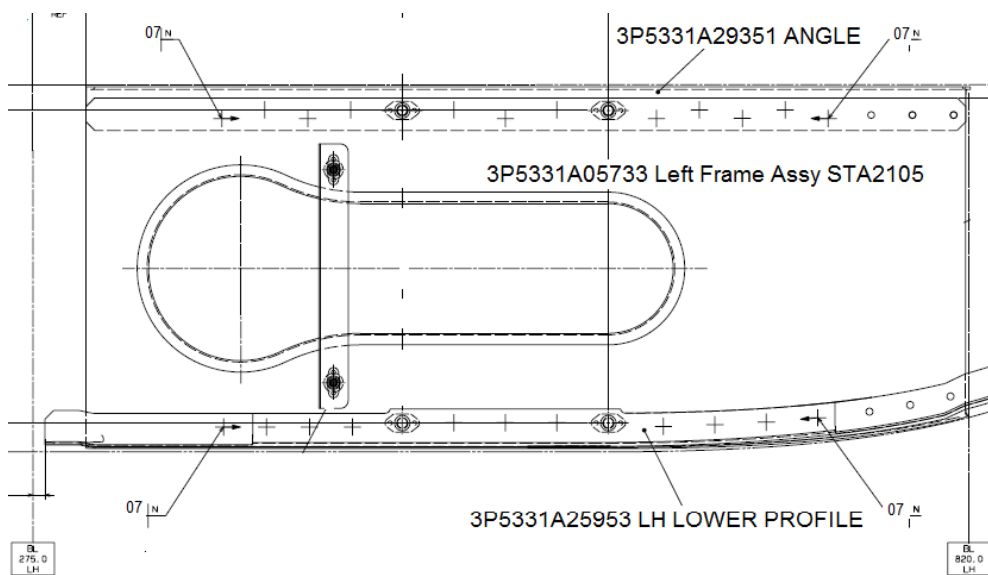

Figure 4 - Left Frame Assy STA2105
5. Remove LH Lower Profile p/n 3P5331A25953 & Angle p/n 3P5331A29351 from Left Frame Assy STA2105 as per figure 4 & 5.
6. Remove Left Frame Assy STA2105 p/n 3P5331A05733 as per figure 4 & 5.
16. Install Left Frame Assy STA2105 p/n 3P5331A05733 along with LH Lower Profile p/n 3P5331A25953 & Angle p/n 3P5331A29351 as per figures 4 & 5.